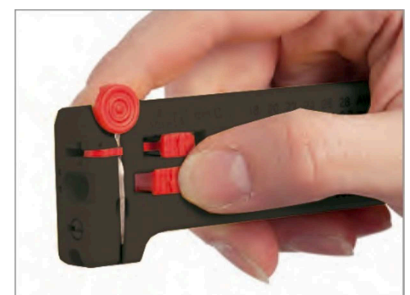

Figure 2
2. Adjust the Strip Length Stop to the desired strip length. See Figure 2. If the stripped section is required to exceed 15mm (.59 in.), then the wire can bypass the Strip Length Stop.